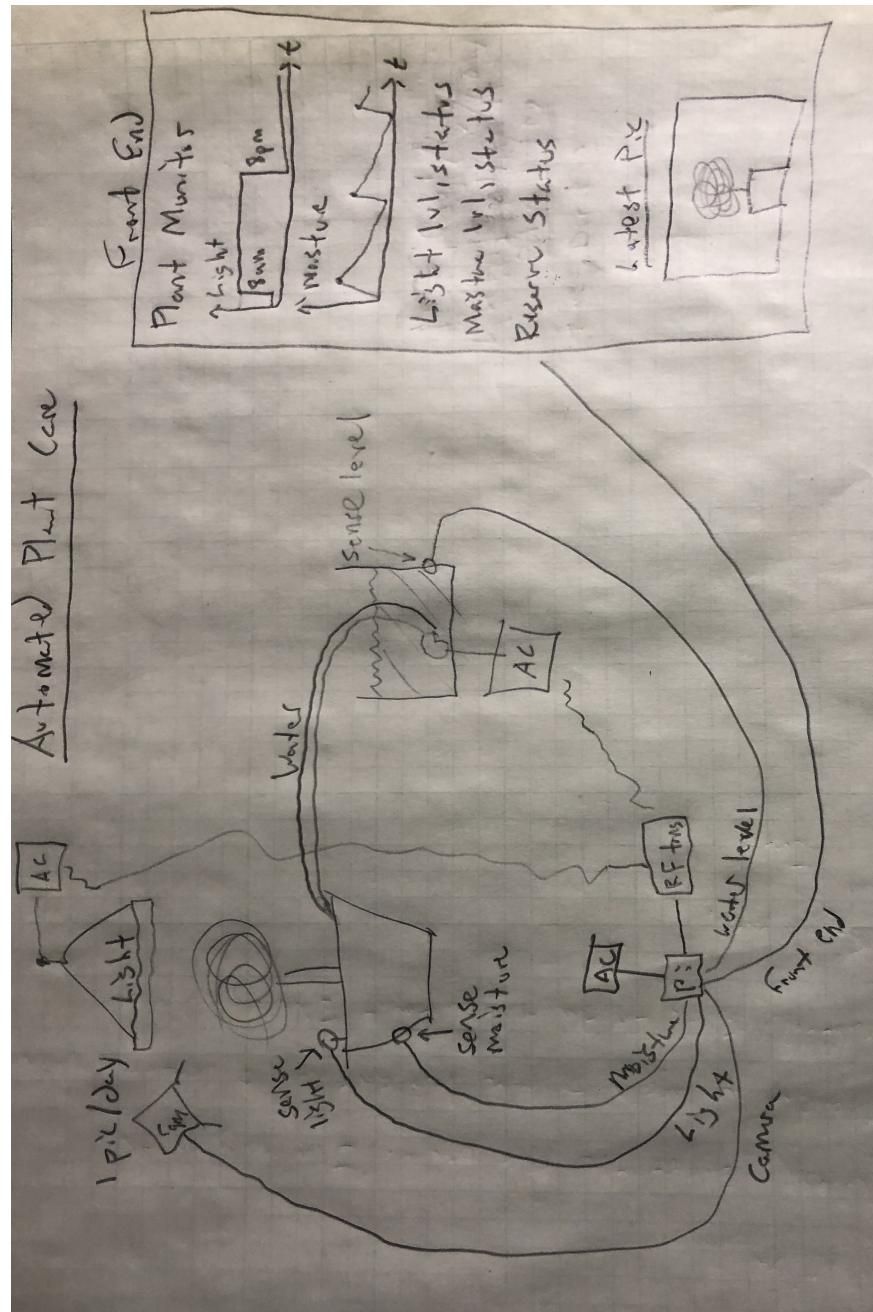

Figure 5: Initial schematic of plant automation system.
The two fundamental pieces of equipment are the light and the pump, and what they both have in common is that they run on AC power. Obviously, the controller for all of this – a Raspberry Pi – is only equipped to handle DC circuits at either 3.3 or 5 volts. While it's possible to do something with relays, nobody wants to explain their neat project to an angry fire marshal. Thus, for safety reasons, it has been elected to use a radio frequency (RF) transmitter paired with RF outlet switches to enable switching of the pump and light. This has an added benefit of greater freedom for routing power. The remainder of equipment to be used is given in the table below, and Fig. 5 provides the *initial* schematic of the design.